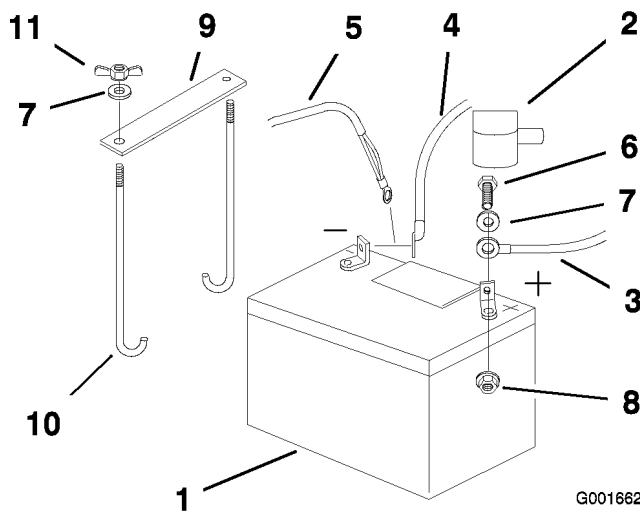

Figure 38
4. First disconnect the negative battery cable and ground wire from the negative (-) battery terminal (Figure 38).
5. Slide the red terminal boot off the positive (red) battery terminal. Then remove the positive (red) battery cable (Figure 38).
- Remove both wing nuts (1/4 inch) securing the battery clamp (Figure 38).
- Position battery in the tray with the terminal posts toward the engine (Figure 38).
- Secure the cables with 2 bolts (1/4 x 3/4 inch), 2 washers (1/4 inch), and 2 locknuts (1/4 inch) (Figure 38).
- Secure battery with J-bolts, hold down clamp and 2 washers (1/4 inch), and 2 wing nuts (1/4 inch) (Figure 38).